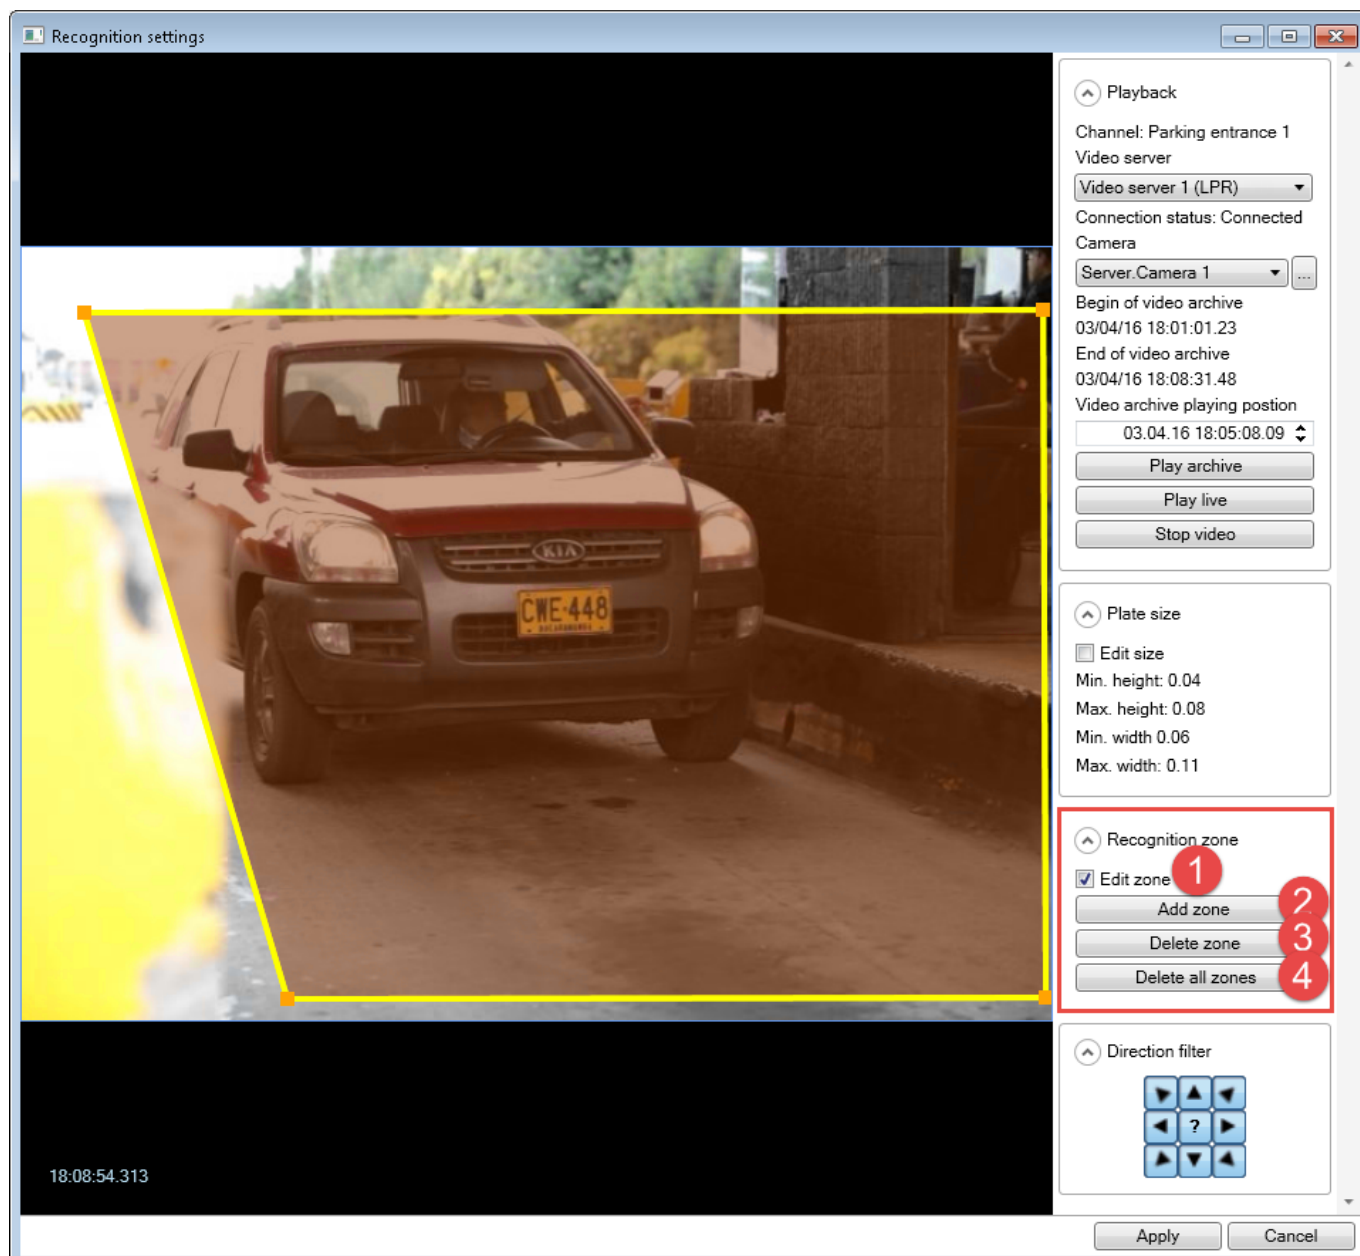

Figure 9: The process of creating a recognition zone
Recognition zone (Fig. 9, settings 1, 2, 3, 4) is an area in the frame that may contain a license plate. Each channel may have up to 20 recognition zones.
To *create* a recognition zone (Fig. 9):
- To *delete a recognition zone*, activate it and click the **Delete zone** button (Fig. 9, 3).
- To *delete all recognition zones*, click the **Delete all zones** button (Fig. 9, 4).